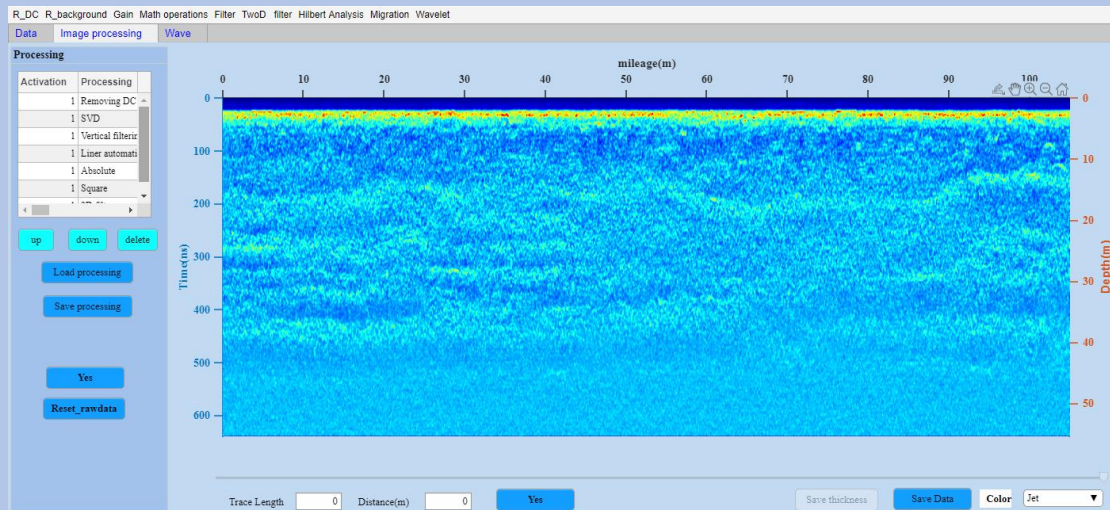

Figure 8.18 Case2 processing results
(5) Click Yes to complete the data processing, and then set the Color to Jet to obtain the processing result as shown in Figure 8-18.